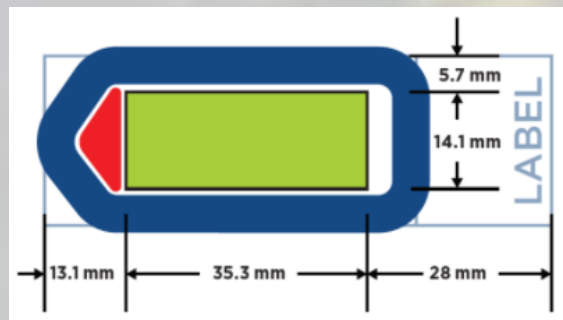

Fig. 1
- Tissue(s)/TMAs must fit and be mounted with the below size restrictions (Fig.1).